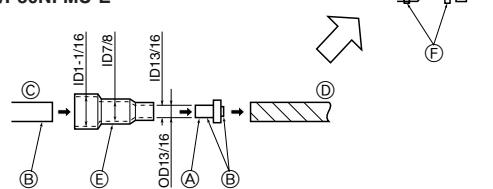

Fig. 5-1
5.1. Drainage piping work (Fig. 5-1)
- ⑩ Inclined downwards
⑪ Must be lower than outlet point
⑫ Water leakage